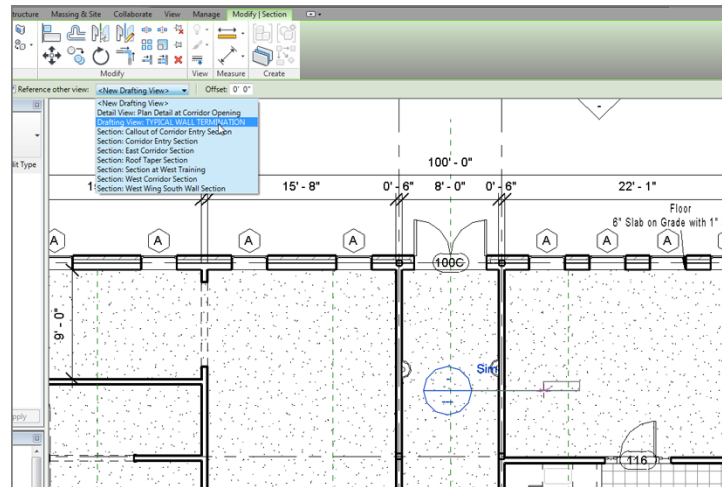

FIGURE 12.76: Choosing the correct options while placing the section
2. Zoom in on the area of the east wing shown in Figure 12.76.
6. Place the section into the model (see Figure 12.76).